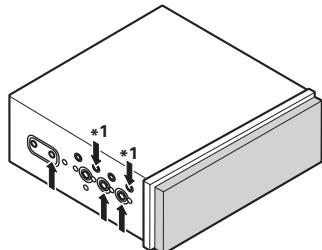
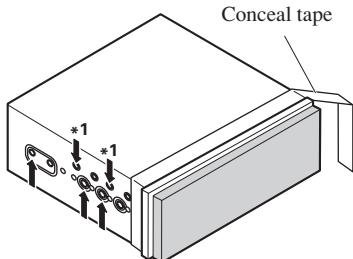
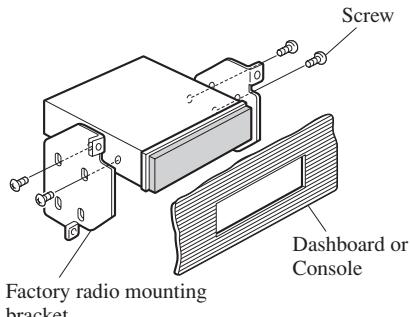

Fig. 17
Fig. 18
Fig. 19
- Fastening the unit to the factory radio mounting bracket. (Fig. 17) (Fig. 18) (Fig. 19)